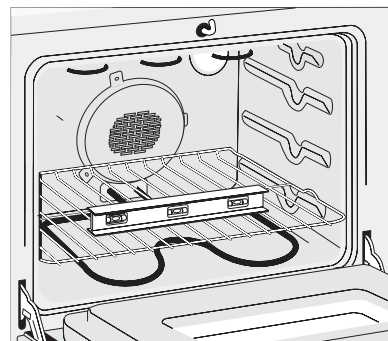

Figure 5
10. **Level the range** (see section 7). The floor where the range is to be installed must be level (see Figure 5).